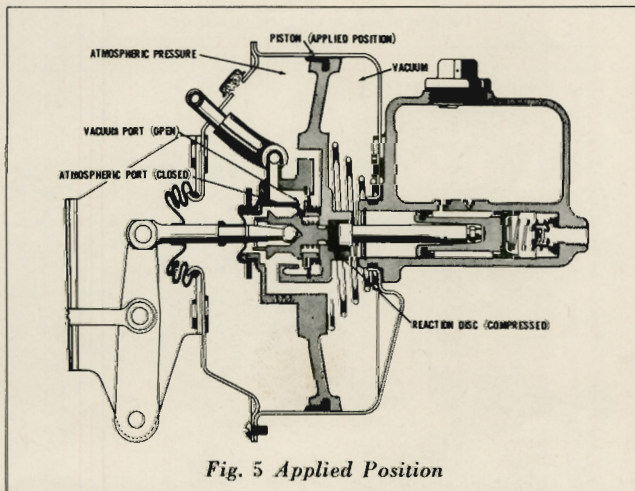

Fig. 5 Applied Position
Applied Position, See Fig. 5
5 Two types of hydraulic cylinders are used, type "A" and type "B", see Figs. 5 and 5a. Remove snap ring (1) from groove in bore at end of master cylinder, then remove stop washer (2) (if used), piston assembly (4), primary cup (5), retainer and spring assembly (6), residual check valve (7) and check valve seat (8) (if used) from hydraulic cylinder (9). Remove filler cap (11) with gasket (10) (if used).